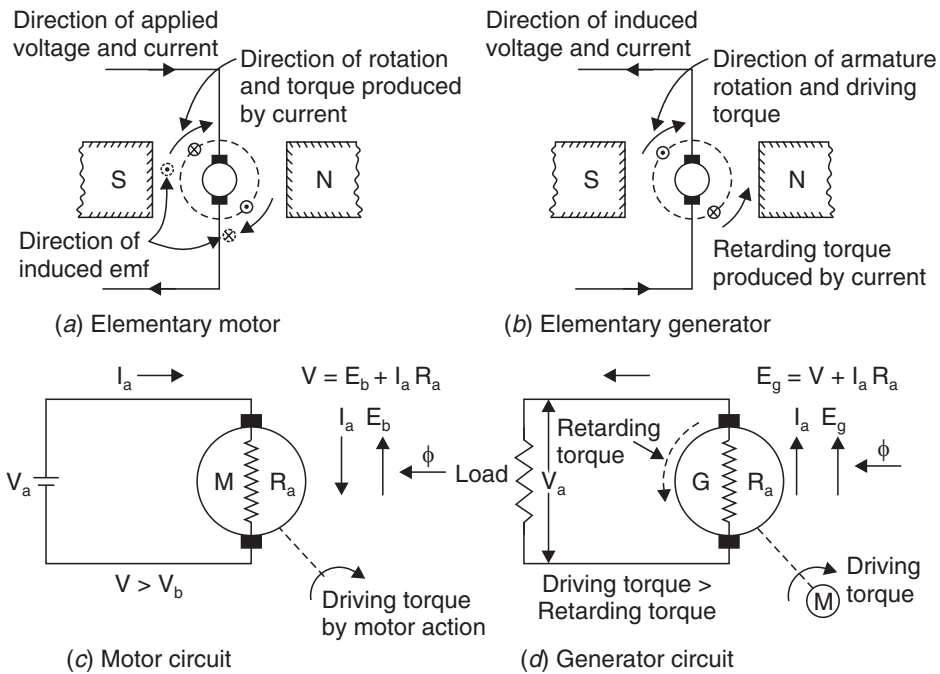

Fig. 54. Elementary motor action *versus* generator action.
- Fig. 54 presents a more graphic representation in terms of rotational elements, which compares the elementary motor and generator for the same direction of rotation and shows the electric circuits of each which is self-explanatory.